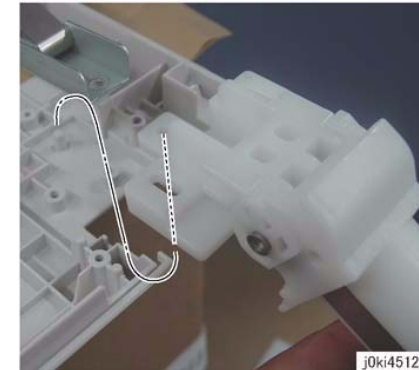

Figure 3 Left Counter Balance Hole Alignment
2. When installing the Left Counter Balance, align the hole of the Left Counter Balance to the positioning boss of the Frame. (Figure 3)